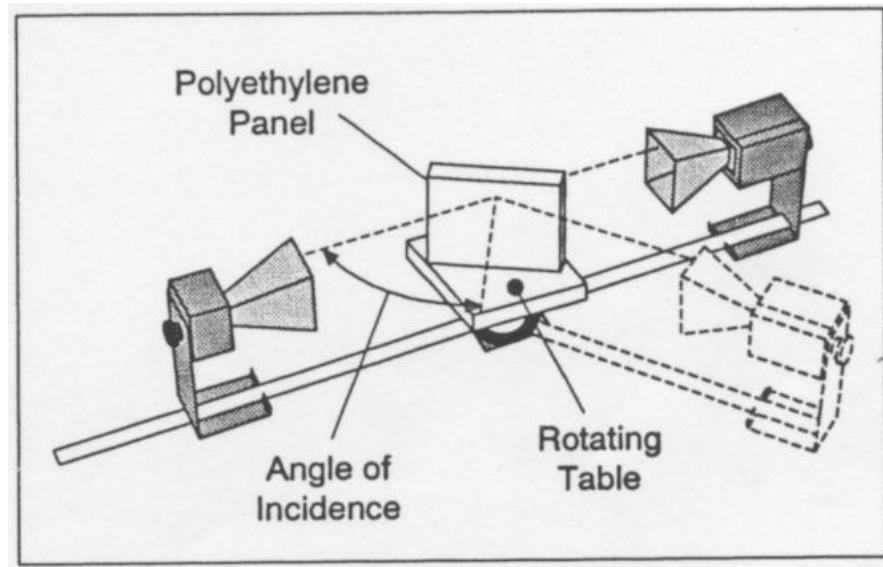

Figure 5: Set-up for the measurement of Brewster's angle
- Set up the goniometer with the receiver unit on the rotating arm. Place the rotating table on the degree plate. Place the polyethylene panel on the rotating table. See Figure 5. Set the angle of incidence to 20 degrees and observe at the same angle (i.e. 140 degrees from the straight through position). Ensure that both the transmitter and receiver units are set for horizontal polarisation. Set the receiver controls for a half full scale reading. Record the meter reading. Carefully rotate both the receiver and transmitter units for vertical polarisation. Record the meter reading.